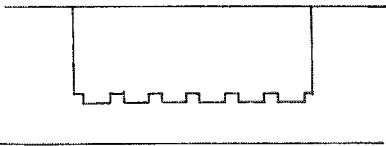

Fig. 4.20 Result of auger being set too low.
- *Auger too low in chisel.* This will allow the auger to cut larger chips of waste which could clog the inside of the chisel, particularly if the timber is resinous. This results in clogging of the waste inside the chisel, leading to overheating. Another problem with this set-up is that the auger will cut much deeper than the chisel and make depths of cut inaccurate (**Fig. 4.20**).